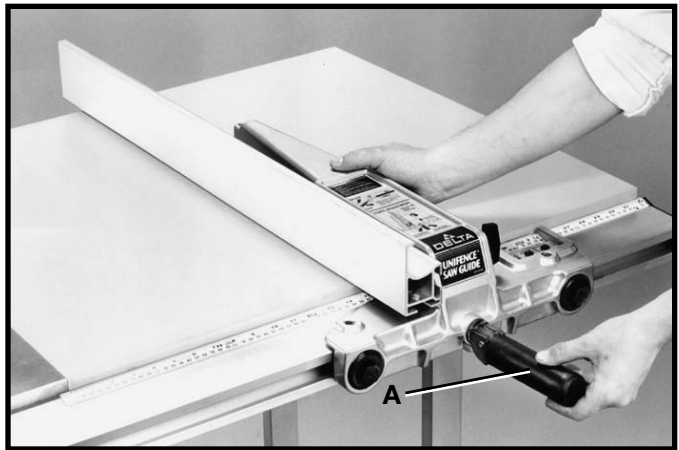

Fig. 112
4. To move the fence along the guide rail, simply lift up clamp lever (A), Fig. 112, slide fence to desired position on the rail, and push down on clamp lever (A) to lock fence in place.